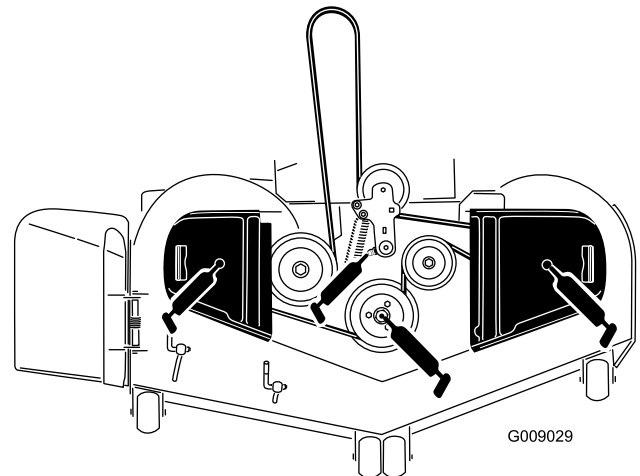

Figure 44
3. Grease the mower deck idler pulley pivot until grease come out the bottom (Figure 44).
4. Grease the 3 spindle bearings until grease come out the lower seals (Figure 44).